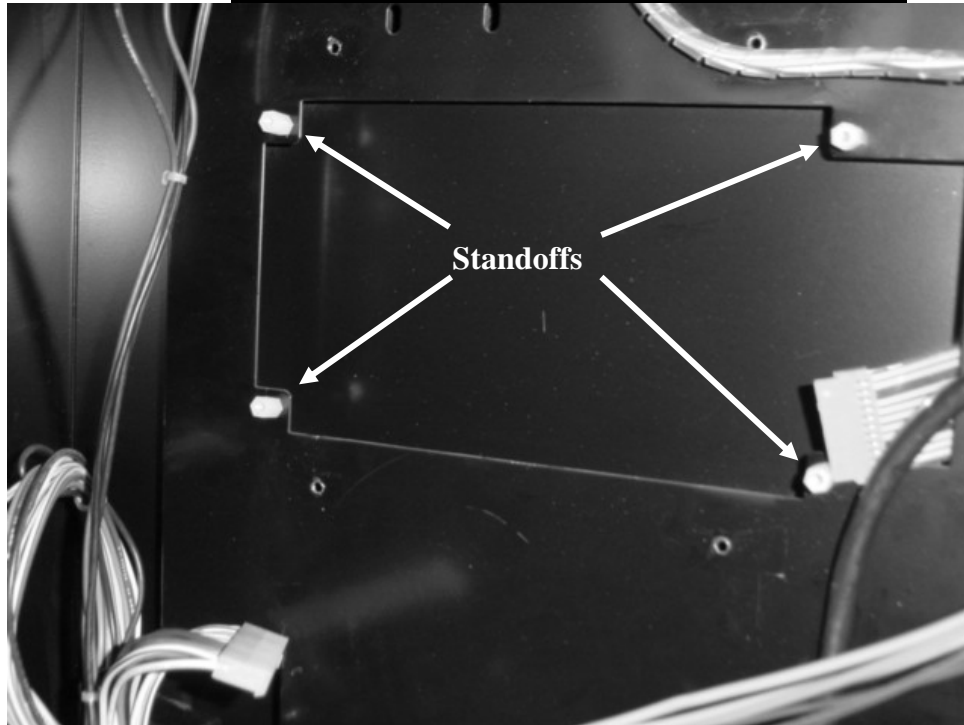

Figure 4
4. Screw the 4 -  $\frac{3}{8}$ " standoffs (short standoff's) into the holes where the controller screws were removed as shown in Figure 4. Place a nut on the back of each standoff and be sure that the standoff is firmly seated to the nut. **Hand tight only to prevent damaging the threads.**